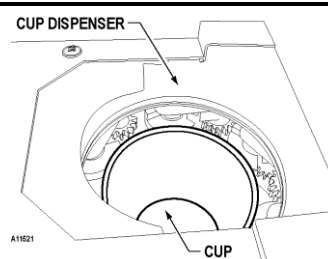

Figure 8b. Cup Ring
2. Take a cup from the stack of cups that will be used in the machine and place the cup in the cup dispenser ring. See **Figure 8b**.